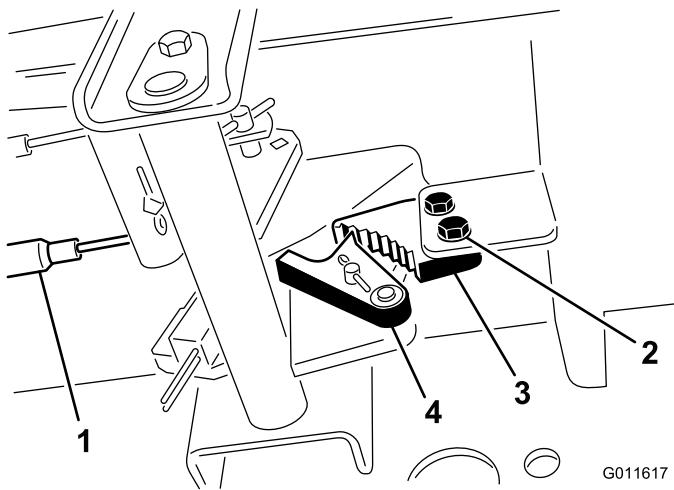

Figure 37
1. Loosen the 2 screws securing the parking brake pawl to the frame (Figure 37).
2. Press the parking brake pedal forward until the brake detent completely engages on the brake pawl (Figure 37).